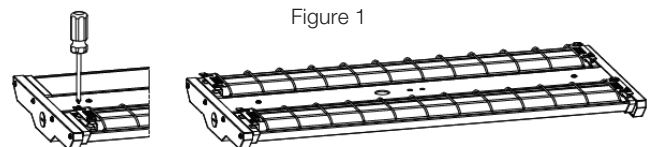

Figure 1
STEP 1: Snap the wire guards into the plug of the light-emitting modules and tighten them with screws (Figure 1).